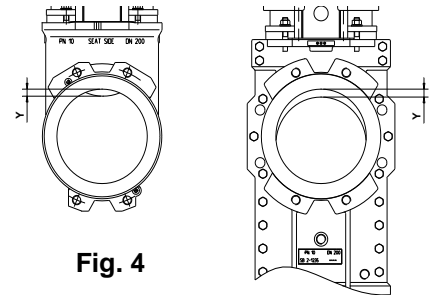

Fig. 4
1. Open the gate by gently operating the cylinder. The piston rod (25) must be in its top position in the cylinder. In this position, the gate should not have left the valve bore completely.
2. Measure the distance Y (see Figure 4) between the edges of the retainer ring in the valve body and the lowest part of the gate.
Then raise the gate clevis (17) by the dimension “Y” (see Fig. 4) on the piston rod (25) and secure with the locking nut (28).
4. With pressure in the cylinder, slowly move the gate clevis (17) back over the gate (6) again until the drilled holes are in exact alignment, then attach the clevis pin (20) and split pins (21) again. Slowly close the gate 100% at first, then move back to the completely open position and check the overhang “Y” – see figure